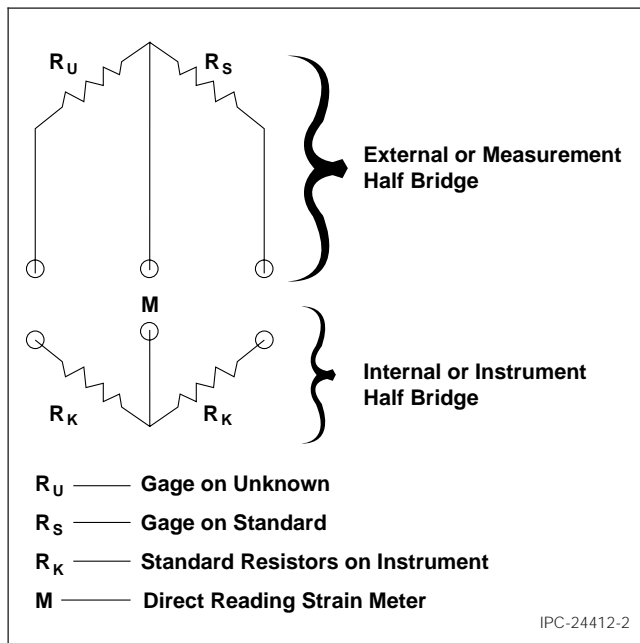

Figure 2 Wheatstone Bridge Instrumentation Hookup
5.5 Test Configuration Connect two strain gages, one to the test specimen and one to the titanium silicate standard, in adjacent arms forming a half bridge; the remaining half of the Wheatstone bridge being completed with the Wheatstone bridge instrument (see Figure 2). Repeat for the remaining two strain gages, one on the test specimen and one on the titanium silicate standard with a second Wheatstone bridge instrument in the circuit.